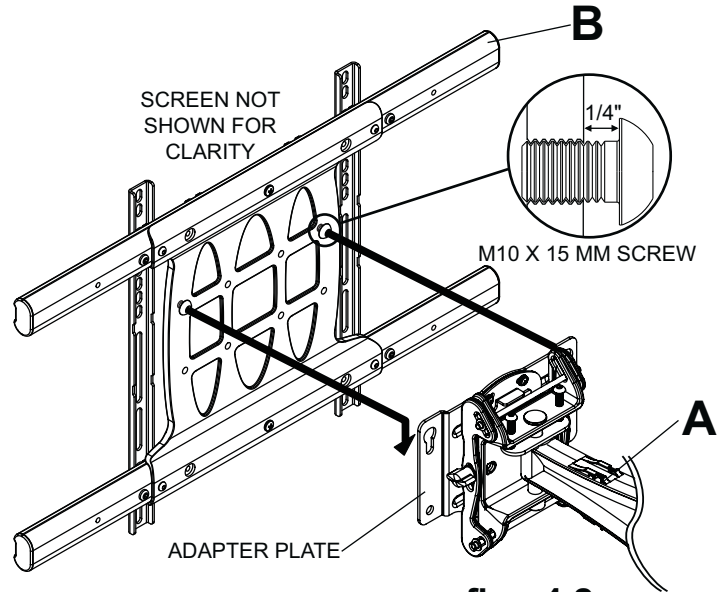

fig. 4.2
- For Universal Adapter Bracket: Hook M10 x 15 mm screws into keyslots of wall arm adapter plate (A) as shown figure 4.2.